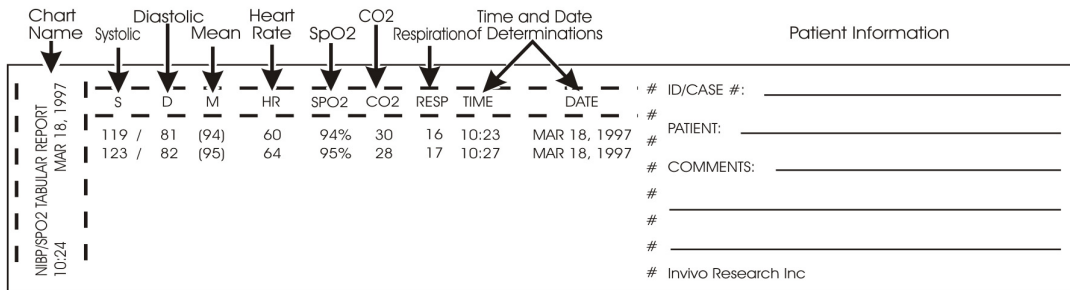

Figure 5-3. Sample Tabular Chart
5.3.2 Tabular Chart Printouts. (See Figure 5-3) The NIBP/SpO2 Tabular Report provides a hardcopy printout of the numerical indications of NIBP, Heart Rate, SpO2, CO2 and RESP along with the date and time of the determination.